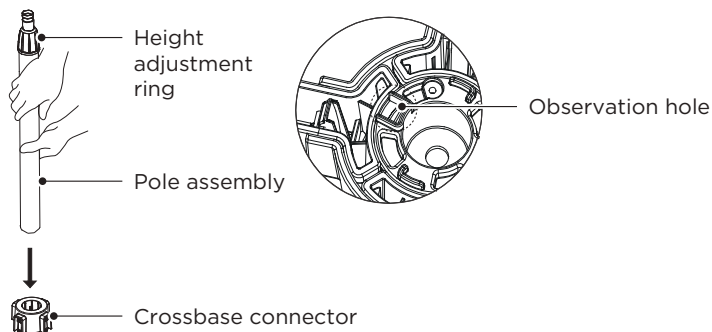

Fig.1
- 1 Insert the pole assembly into the connector from top to bottom, ensure it is installed in place (Through the through hole at the bottom of the connector, it can be judged whether the pole is installed in place) .(Fig.1)